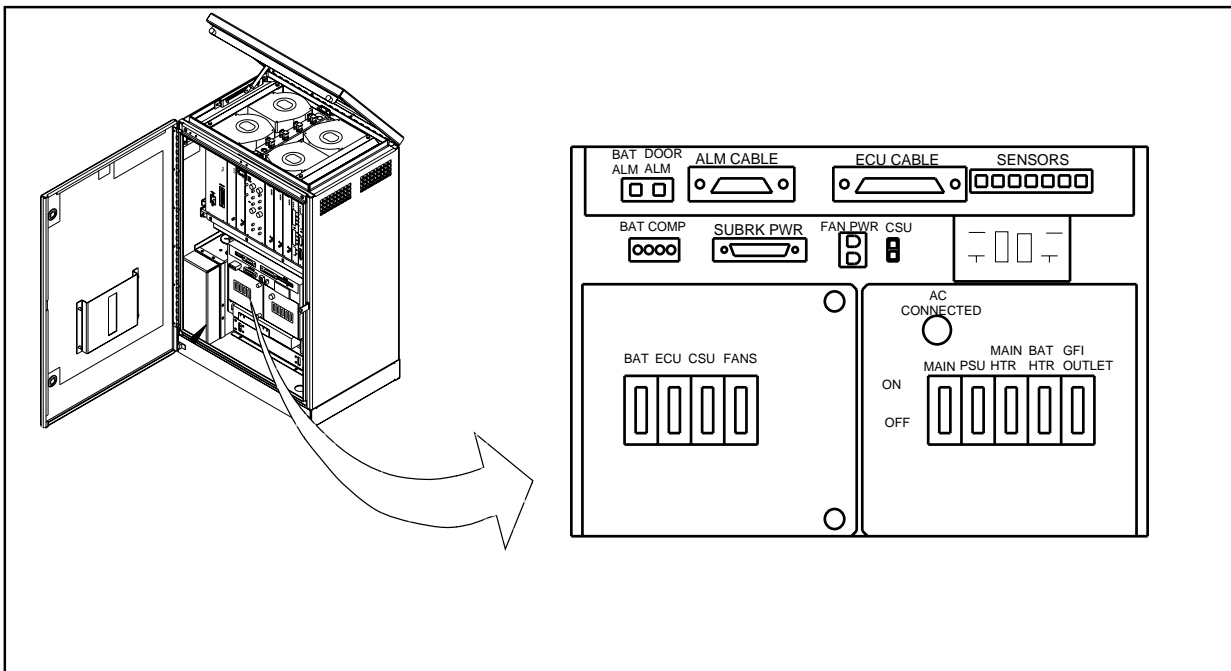

Figure 5-24. AC/DC Distribution Box
3. Place the **BAT** circuit breaker on the left side of the AC/DC Distribution Box in the OFF position. See Figure 5-24 on page 5-49